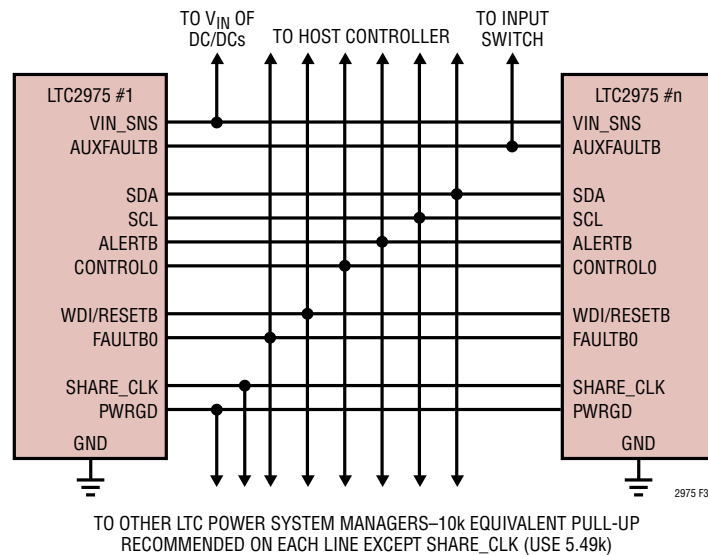

Figure 33. Typical Connections Between Multiple ADI Power System Managers
Figure 33 shows how to interconnect the pins in a typical multi-LTC2975 array.
- The FAULTB lines can be connected together to create fault dependencies. Figure 33 shows a configuration where a fault on any FAULTB will pull all others low. This is useful for arrays where it is desired to abort a startup sequence in the event any channel does not come up (see Figure 34).
- PWRGD reflects the status of the outputs that are mapped to it by the MFR_PWRGD_EN command. Figure 33 shows all the PWRGD pins connected together, but any combination may be used.